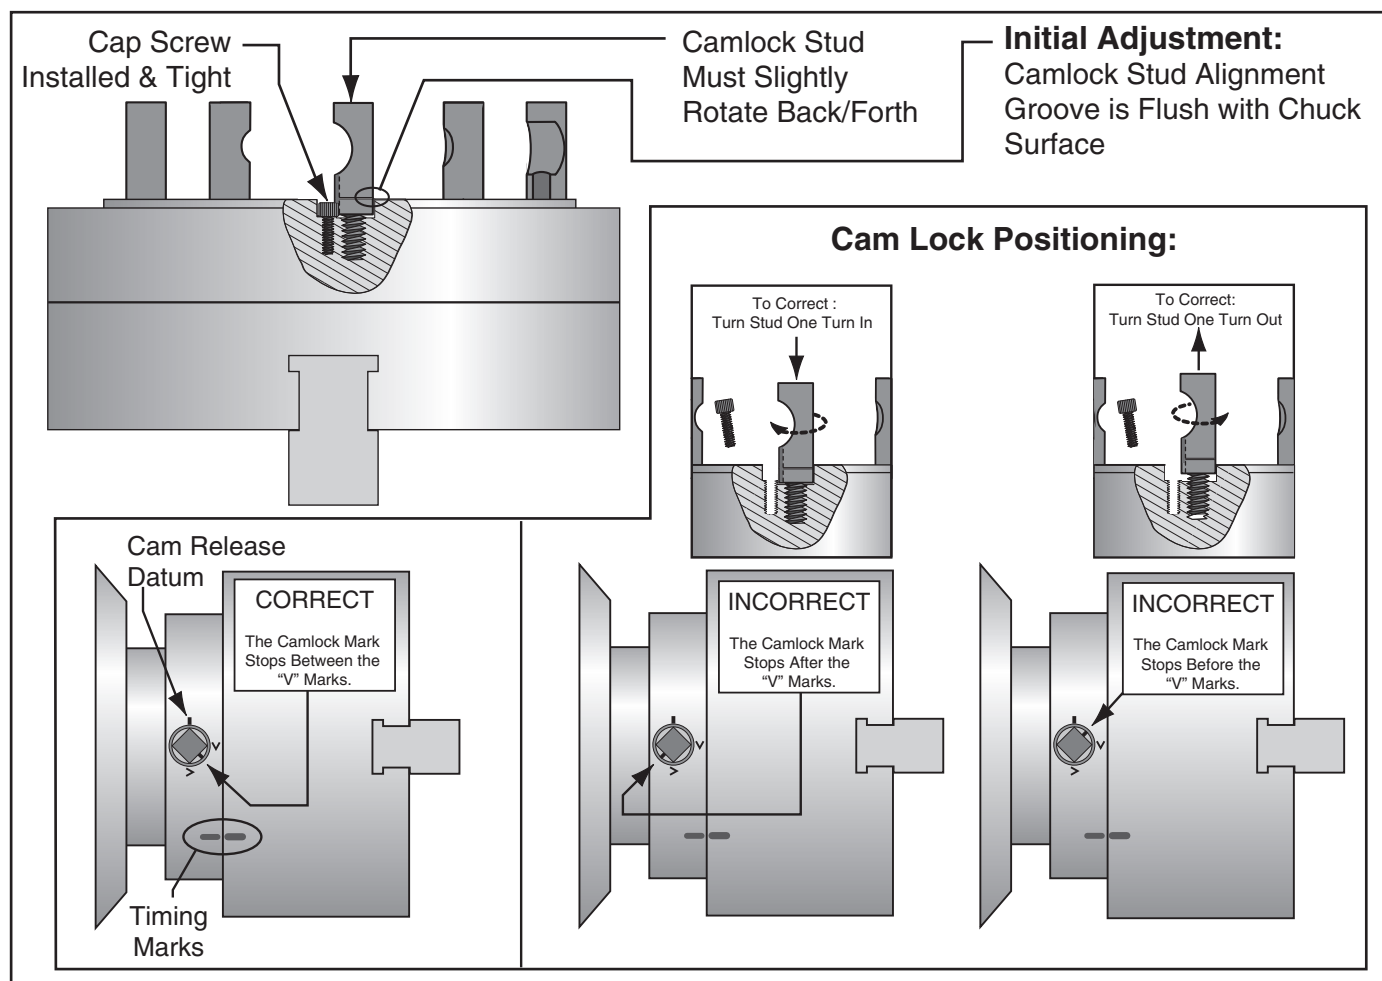

Figure 24. Camlock stud alignment.
5. Align the chuck-to-spindle timing marks (see **Figure 24**), and slide the chuck onto the spindle.
Note: If any of the cam lock marks (see **Figure 24**) do not fall between the "V" marks when the cam lock is tight, you must adjust the offending camlock stud as discussed in **Camlock Stud Installation**.
- Oil and thread each cam stud into the chuck until the alignment groove is flush with the chuck surface as shown in **Figure 24**.
—If the cam lock mark stops outside of the "V" marks, remove the chuck and adjust the cam stud height of the offending studs one full turn (see **Figure 24**).
—If the final position of each cam mark is between the two "V" marks as shown in **Figure 24**, no stud adjustment is required.